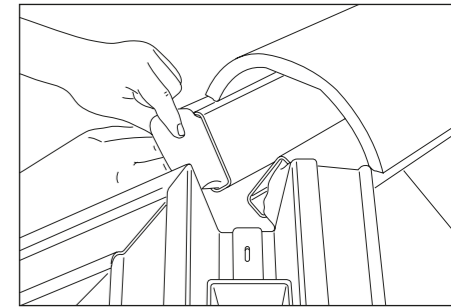

Fig. 11 - Insert closed cell foam rubber strip
- 23 At hip apex, mitre dry hip batten sections together as closely as possible. When forming a junction with the Marley ventilated dry ridge system, ensure the closed cell foam rubber strip 100mm longer than required, and insert into dry ridge batten sections to ensure a watertight seal (Fig. 11).